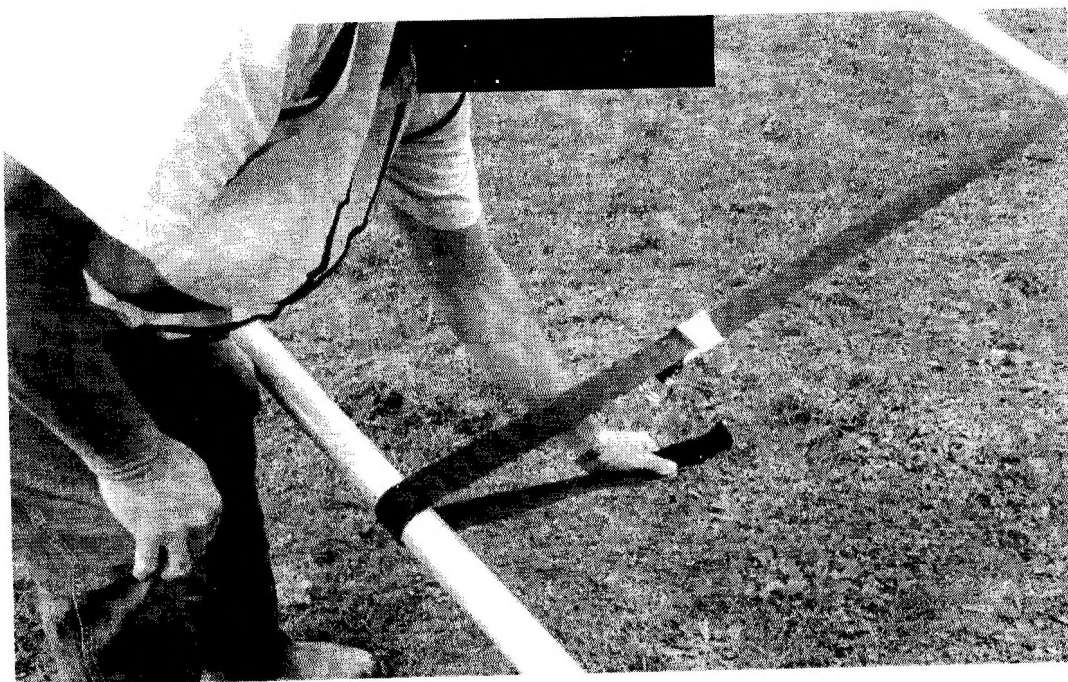

Figure 10: Tensioning Roof Restraint
26. Tension roof restraint strap at other end of frame as detailed in Fig 10.